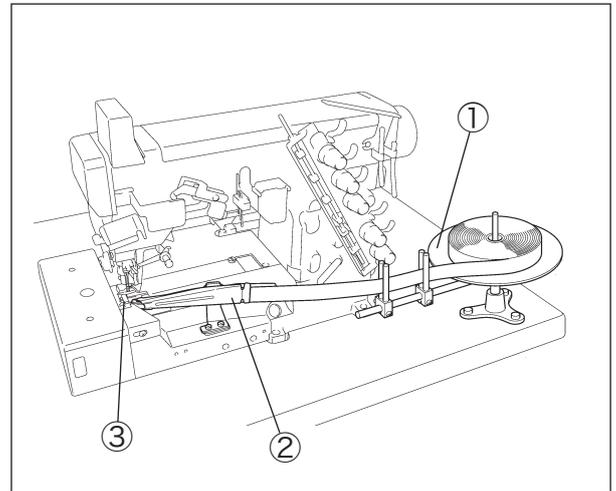

Fig. 5-15
Set the tape role on the tape stand ① (Fig. 5-15).